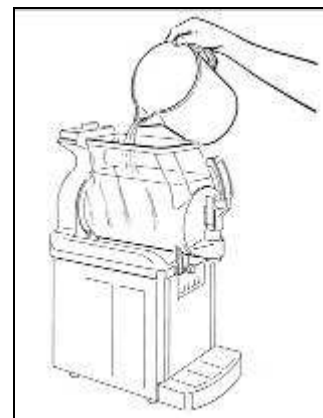

**Fig. 11**
- After unlocking the main cover with its key (fig.10), remove the main cover and the secondary one under it (fig.11).